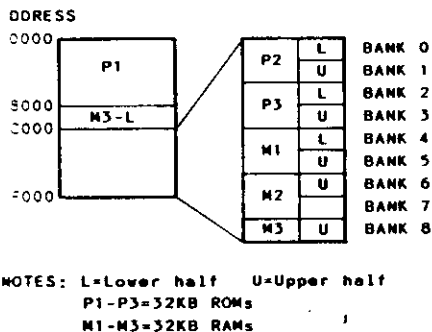

FIGURE 6-56 CPU MEMORY MAPPING
2. **Memories:** 96-k bytes of ROM and 96-k bytes of RAM are mounted on the CPUHW card. The CPU uses 32-k ROM and 16-k RAM, totaling 48-k memory area for basic operation, and remaining memory address C000H to FFFFH are used for banking to access further 144-k bytes of memory as illustrated in Figure 6-56. A custom made IC27 was developed for this purpose. The operating program is stored in PROMs at P1, P2 and P3 and customer database and system operating condition are stored in RAMs at M1, M2 and M3. The RAMs are backed up by a Lithium battery (BTT) to maintain the installed customer database through connector CN-BT while the CPUHW card is not powered.